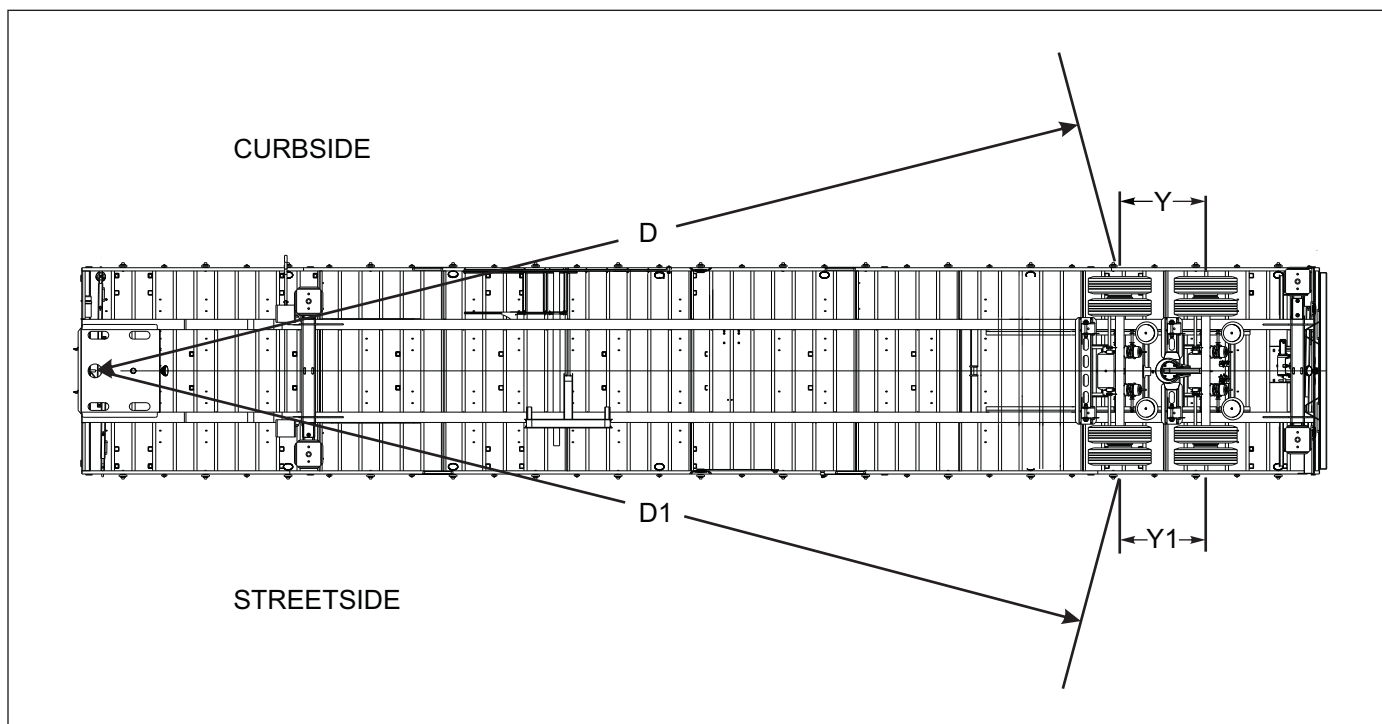

Figure 4-12: Checking Axle Alignment
4. Measure (D) from the plumb bob to the center point on one end of the axle. Record this measurement (See Figure 4-12.)
5. Measure (D1) to the other end of the axle in the same manner as in step 4. Record this measurement (See Figure 4-12.)